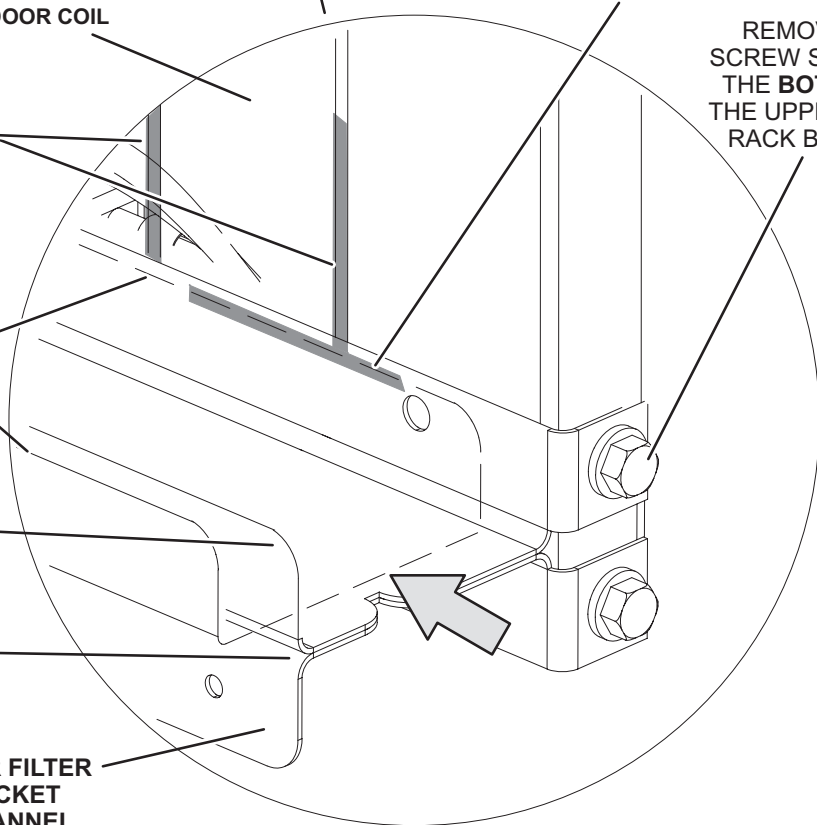

FIGURE 40
The optional, brush-type ionizer produces positive and negative ions to clean air and reduce airborne contaminants. The ionizer was designed to be low maintenance. The device should be checked semi-annually to confirm the brushes are clean for maximum output. The ionizer is located behind the filters. See FIGURE 40.
- 1 - Remove filters, screws securing the top and bottom of the upper filter bracket, and the wire ties the screws hold in place. See FIGURE 40.